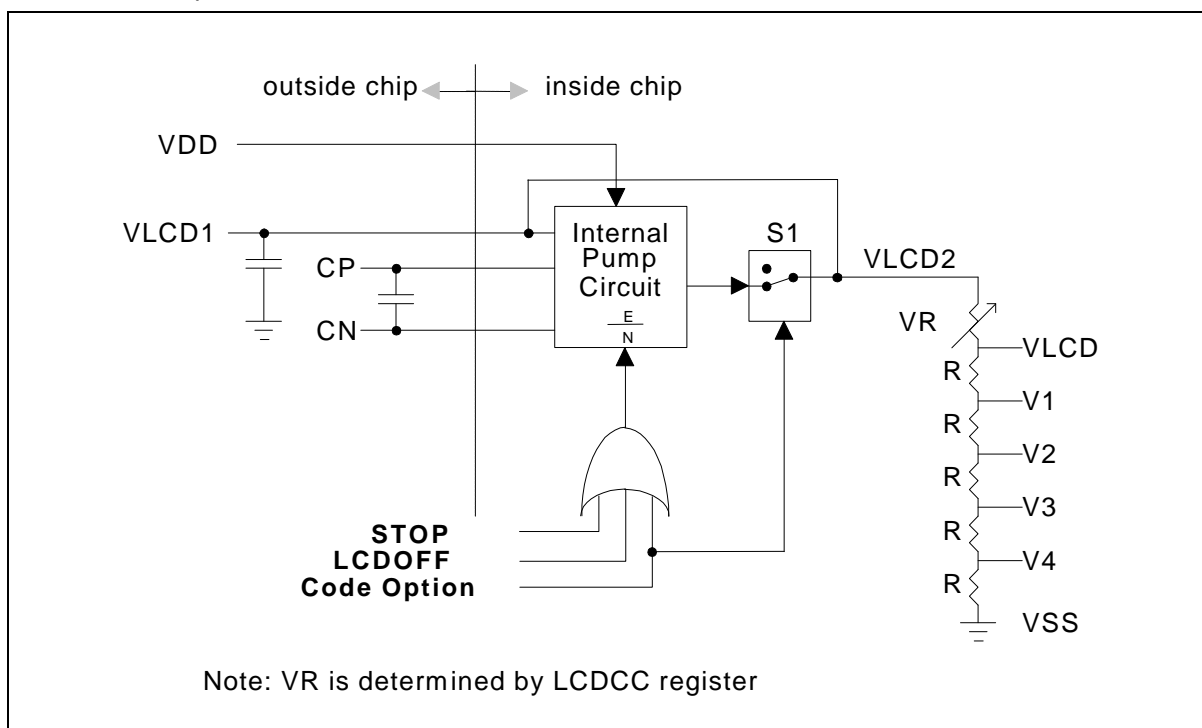

Figure 5-18. LCD power control circuit
internal variable resistor (VR). VLCD voltage is controlled by setting bit2, bit1 and bit0 of LCD contrast control register (LCDCC). LCDCC is determined by executing MOV LCDCC, #I. The Figure 5-18 shows the LDC power control as below: